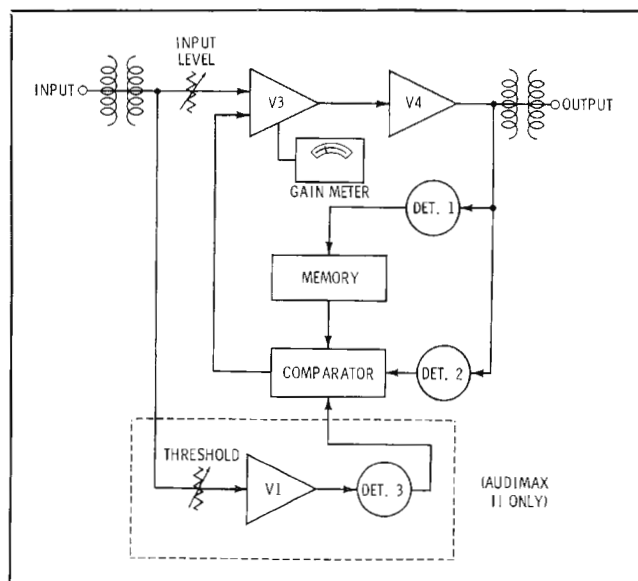

Fig. 1. Block diagram of CBS Labs "Audimax" equipment.
**CBS "Audimax"**—There are actually four models in the Audimax series. The prototype is Audimax I (Model 440), and its operation is illustrated in Fig. 1. Note that the main-signal channel is a variable gain circuit, V3 being a variable-gain controlled stage, and V4 the output stage from which level information is taken. Detector 1 feeds output-derived voltage to a memory unit, from which the comparator extracts information about program content for the preceding 10 seconds. Detector 2 has no memory, feeding its output-derived voltage directly to the comparator. The two detectors are differently weighted, hence they feed different information for the same signal-output voltage. The comparator decides whether to hold or alter gain, and executes this decision by changing the bias voltage to the controlled stage (V3).
After a pause of 2 seconds, Audimax I will seek its maximum gain. Where this feature is undesirable (as during classical music or TV film programming with long-duration pauses), Audimax II (Model 441) has been developed. Referring to Fig. 1, the additional circuitry is seen. Amplifiers VI, 2 are fed from the input and drive detector 3. If audio input drops below the threshold, detector 3 supplies gated information to the comparator; a change of control voltage is then inhibited until detector 3 indicates a new audio signal above threshold. This feature is called **gated gain stabilizer**, and it effectively lengthens gain increase time